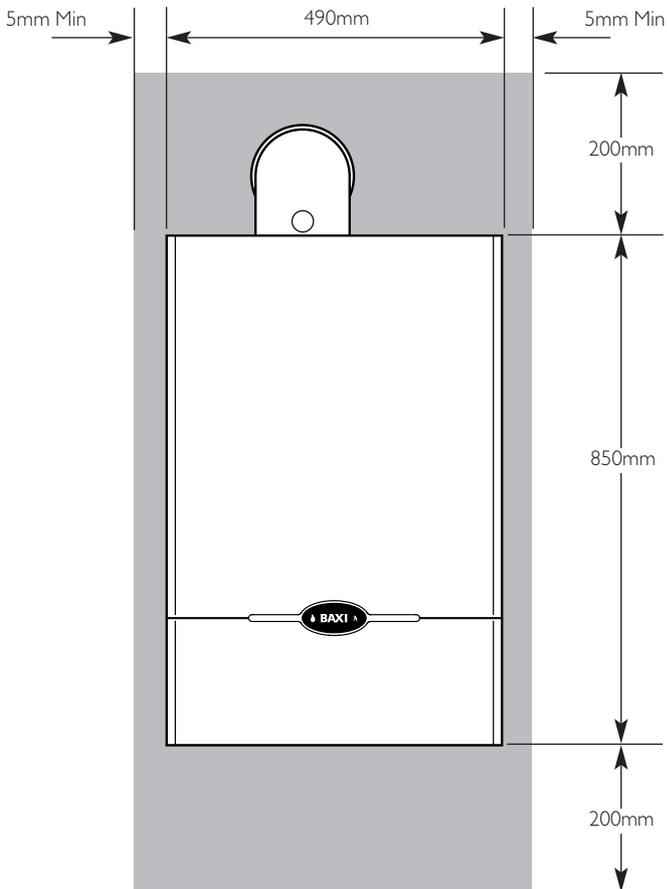

Fig. 13
7.3 Clearances (Figs. 13 & 14)